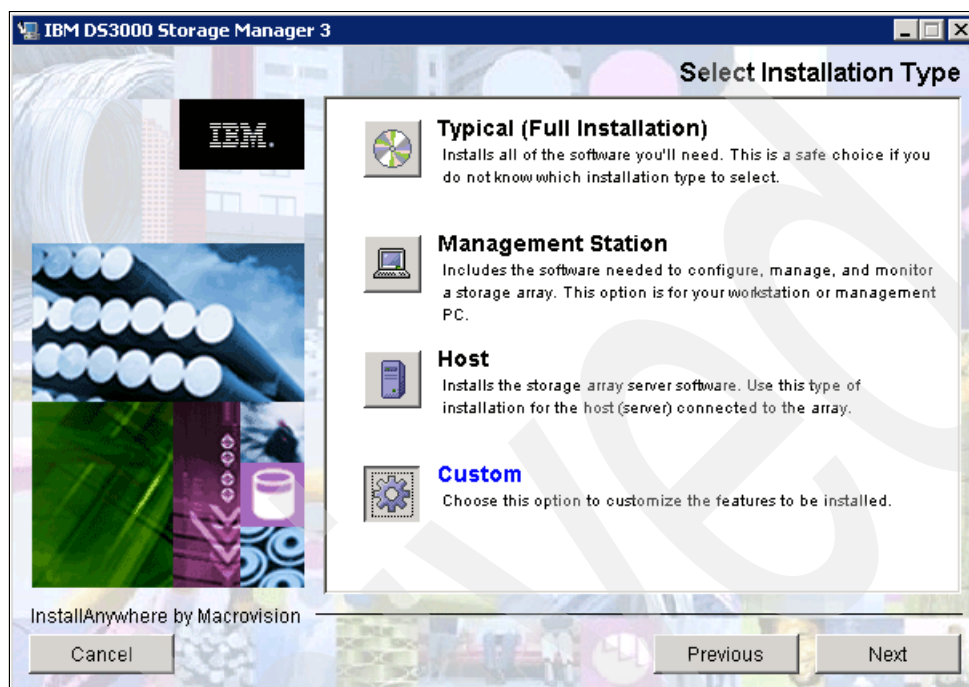

Figure 6-7 Select Installation Type
7. For Installation Type (Figure 6-7), select **Custom** and click **Next**. We recommend the Custom installation because you can see what components of Storage Manager will be installed in each Install Set (Typical, Management Station, or Host) and you can also modify them.
8. In Figure 6-8 on page 87, select **Install Set** from the drop-down menu. The same options shown in Figure 6-7 appear. When you select an Install Set, you can see what components will be installed, and modify them if you wish. See 3.4.1, "DS3000 Storage Manager components" on page 27 for a description of each component. Our example shows the client selection because the system being installed is for management purposes and the other components are not required for it.